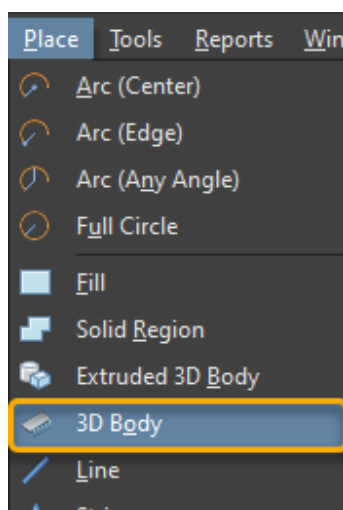

Figure 36. Place 3D Body Command
51. Go to **Place » 3D Body (P, O)** from the menu as shown in Figure 36.